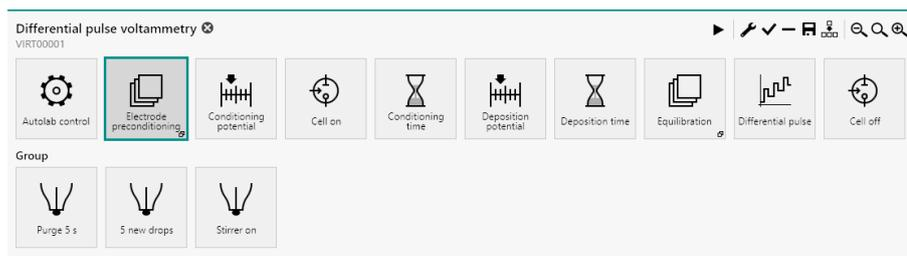

Figure 640 The Electrode preconditioning group
- **Electrode preconditioning**: this command group is used to create new mercury drops at the beginning of the procedure. The commands in this group are used to purge the solution for the specified duration, create the specified number of new drops and switch the stirrer on (see figure 640, page 540).